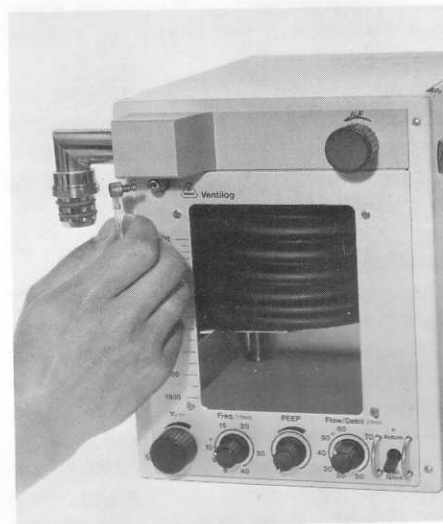

Fig. 11 Connecting and disconnecting the control-pressure lead to the Ventillog
Push the control-pressure lead 16 on to the nozzle of the switching valve (Fig. 10) and insert the connection 17 on the other end of the control-pressure lead into the coupling 2 on the Ventillog (Fig. 11). This connection can be disengaged by sliding back the knurled ring on the connector.
- Push the bellows on to the central connector nozzle of the patient system (Fig. 11), by taking the compressed bellows in one hand and the patient system in the other hand and pushing the bellows sleeve on to the nozzle with a turning motion until the stop is reached.